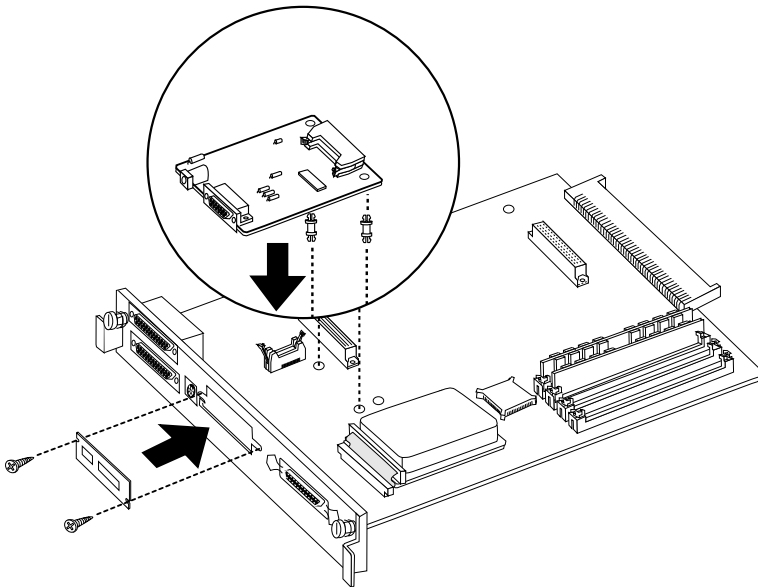

Fig. 8.18 Attach Support Posts to Controller Board
3. Examine the ends of the two plastic support posts that come with the smaller network interface card: one end has a slightly larger diameter and the other end is slightly more tapered. Insert the larger ends into the controller board (fig. 8.18).
4. Snap the network interface card onto the plastic support posts (fig. 8.18). (If you have trouble snapping the interface board onto the support posts, you probably inserted the wrong ends of the posts into the controller board in step 3.)
5. Using the two screws you removed in step 2, fasten the new interface plate to network interface card to hold the card in place (fig. 8.18).
- a. Snap the network interface card onto the plastic support posts (fig. 8.18).
- b. Using the two screws you removed earlier, refasten the interface plate to hold the network card in place (fig. 8.18).